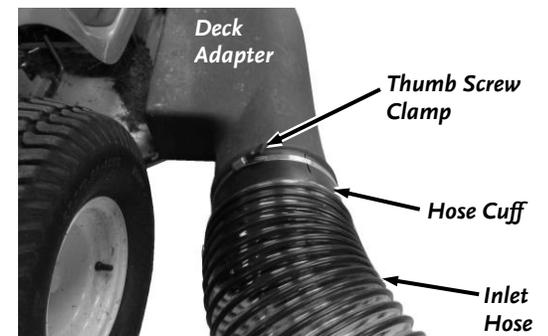

Figure 76
4. Turn the Thumb Screw Clamp to disconnect the Hose from the Deck Adapter (**Figure 76**).